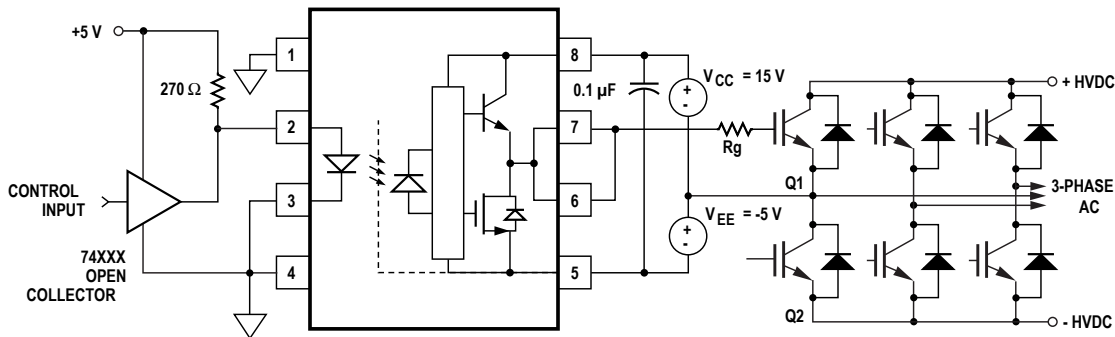

Figure 30. ACPL-3130 Typical Application Circuit with Negative IGBT Gate Drive.
**Step 1:** Calculate  $R_g$  minimum from the  $I_{OL}$  peak specification. The IGBT and  $R_g$  in Figure 30 can be analyzed as a simple RC circuit with a voltage supplied by the ACPL-3130.
For the circuit in Figure 30 with  $I_F$  (worst case) = 16 mA,  $R_g$